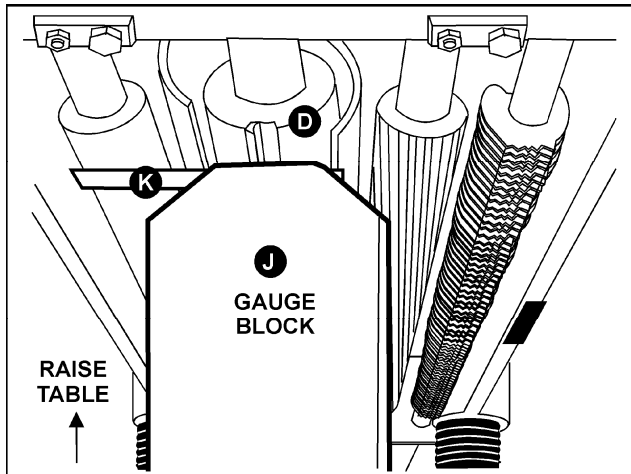

Figure 32
2. Turn the handwheel clockwise, raising the cutterhead assembly high enough to place the gauge block (J, Fig. 32) on the table directly underneath the cutterhead (D, Fig. 32) Using a 0.02" (0.5mm) feeler gauge (K, Fig. 32) placed on top of the gauge block, lower the head assembly until the knife just touches the feeler gauge when the knife is at its lowest point. Do not move the working table any further until the infeed and outfeed rollers are adjusted.